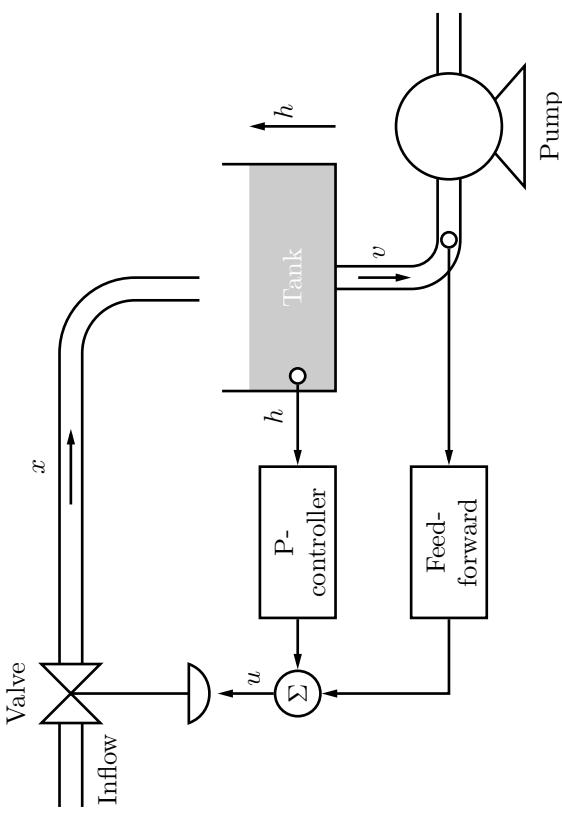

Figure 7.2a
7.2 A level control system for a water tank is shown in Figure 7.2a, where all variables denote offsets from an operation point. The inflow, $x(t)$, to the tank is determined by the valve, and the outflow, $v(t)$, is determined by the pump. Stu Dent has got the assignment to keep the water level in the tank constant, in spite of variations in the outflow $v(t)$. First, Stu determines the transfer function $G_v(s)$ from the value to $x(t)$. By step response experiments, he obtains the following result: